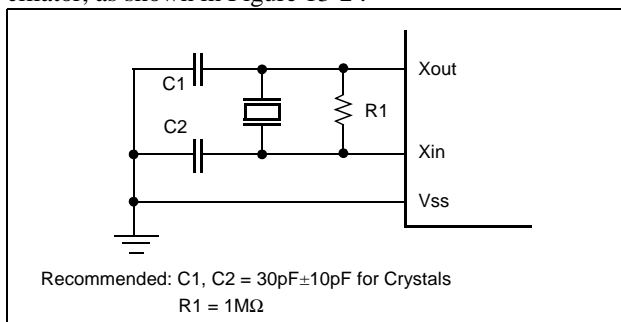

Figure 13-2 Oscillator Connections
XIN and XOUT are the input and output, respectively, an inverting amplifier which can be set for use as an on-chip oscillator, as shown in Figure 13-2.
**Note:** When using a system clock oscillator, carry out wiring in the broken line area in Figure 13-2 to prevent any effects from wiring capacities.